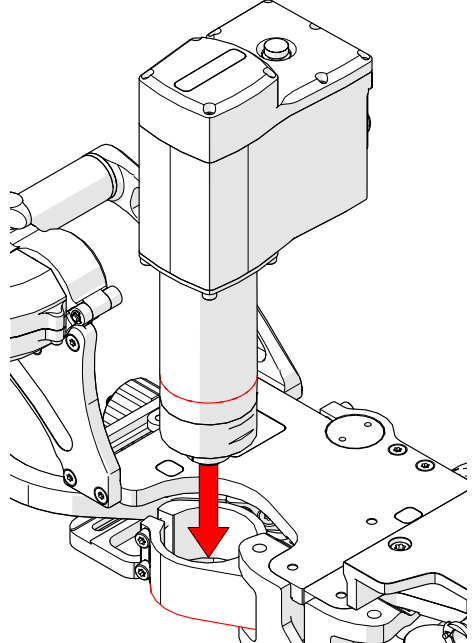

Fig. 190 - Align motor can etched line with base of clamp
3. Align the etched line on the motor can with the base of the clamp and tighten the two clamp screws. This positions the motor can before confirming the positioning with the following steps (*Fig. 190*).